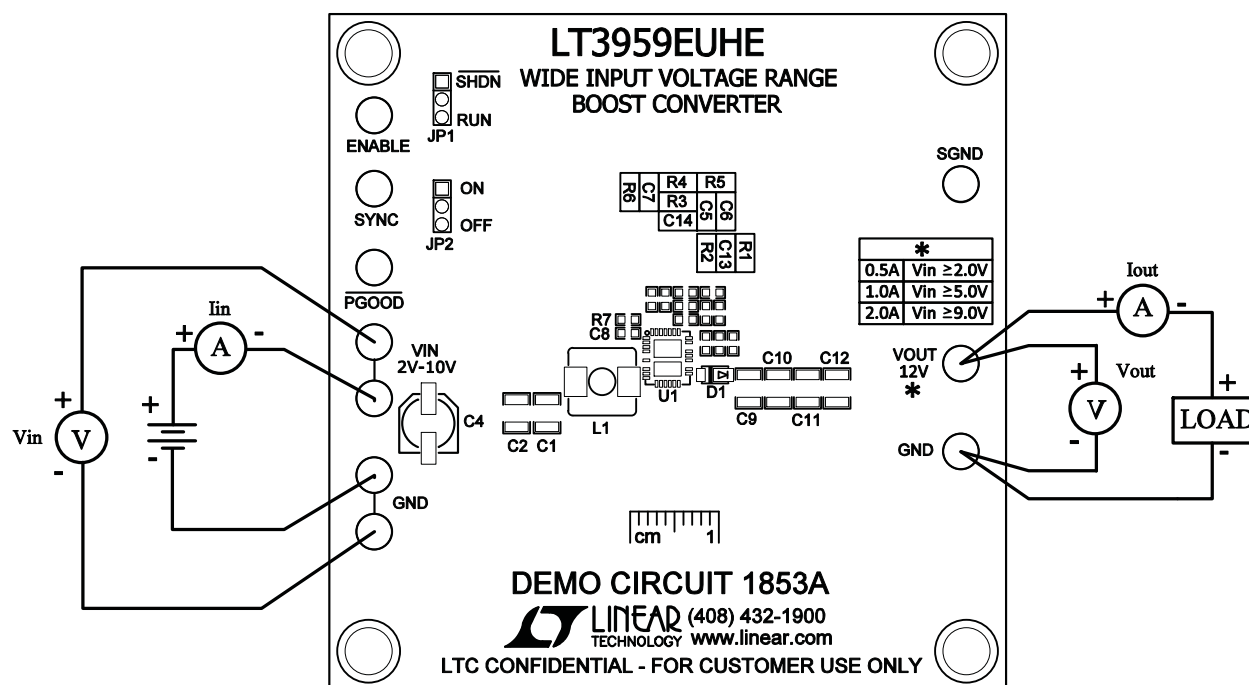

Figure 1. Proper Measurement Equipment Setup
Demo circuit 1853A is easy to set up to evaluate the performance of LT3959. Refer to Figure 1 for proper measurement equipment setup and follow the procedure below.
1. With power off, connect the input power supply, load and meters as shown in Figure 1. Preset the load to 0A, and V_{IN} supply to be 0V. Place jumpers in the following positions.